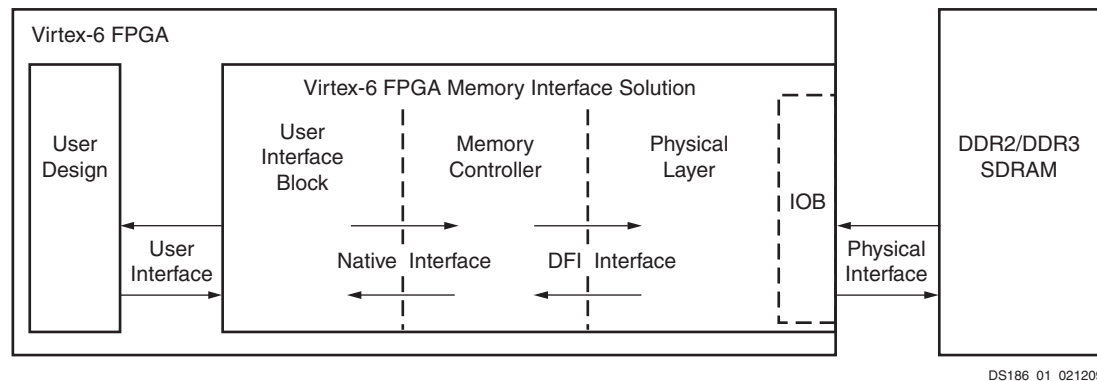

Figure 1: DDR2/DDR3 SDRAM Memory Interface Solution
Figure 1 shows a high-level block diagram of the Virtex-6 FPGA memory interface solution connecting a user design to a DDR2 or DDR3 SDRAM device. The physical layer (PHY) side of the design is connected to the DDR2 or DDR3 SDRAM device via FPGA I/O blocks (IOBs), and the user interface (UI) side is connected to the user design via FPGA logic. Alternatively, an AXI4 slave interface is available to connect to an AXI4 master (not shown in Figure 1). See UG406, *Virtex-6 FPGA Memory Interface Solutions User Guide* for more details regarding the design.
As shown in Figure 1, the top-level functional blocks of the Virtex-6 FPGA memory interface solution include:
Figure 1 also shows a user design connecting to the memory interface. An example user design is provided with the core. See UG406, *Virtex-6 FPGA Memory Interface Solutions User Guide* for more details regarding the design.